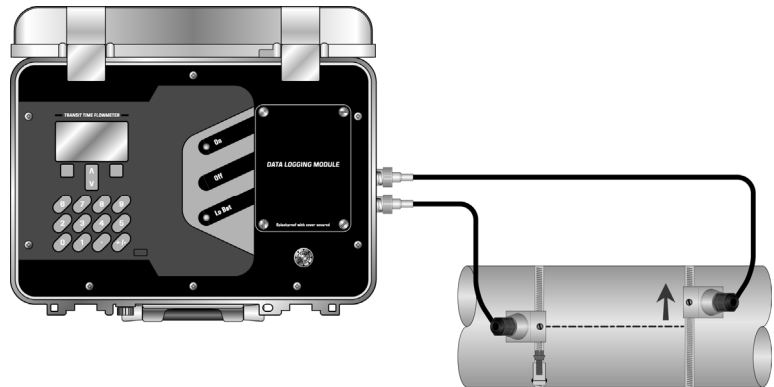

Figure 2.4 High Signal Strength Condition
5. Certain pipe and liquid characteristics may cause Signal Strength to rise to greater than 95%. The problem with operating an FDT-81 with very high Signal Strength is that the signals may saturate the input amplifiers and cause erratic readings. To decrease the Signal Strength, move one transducer a small distance radially around the pipe, as shown in **Figure 2.4**.
8. Certain pipe and liquid characteristics may cause Signal Strength to rise to greater than 95%. The problem with operating an FDT-81 with very high Signal Strength is that the signals may saturate the input amplifiers and cause erratic readings. To decrease the Signal Strength one transducer can be offset radially, as illustrated in **Figure 2.4**, or a V-Mode mounting method may be chosen.